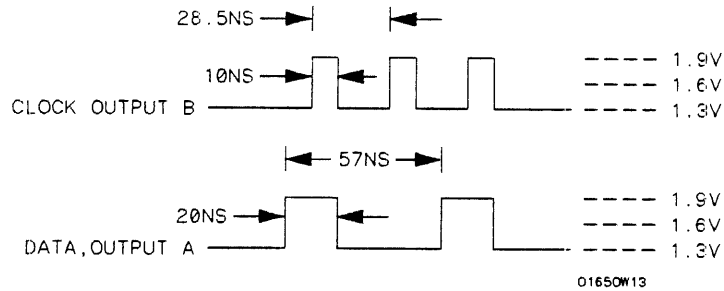

Figure 3-19. Waveform for Data Test 4
- Adjust pulse generator for the output in figure 3-19. Pulse generator settings are different for HP 1650B and HP 1651B.